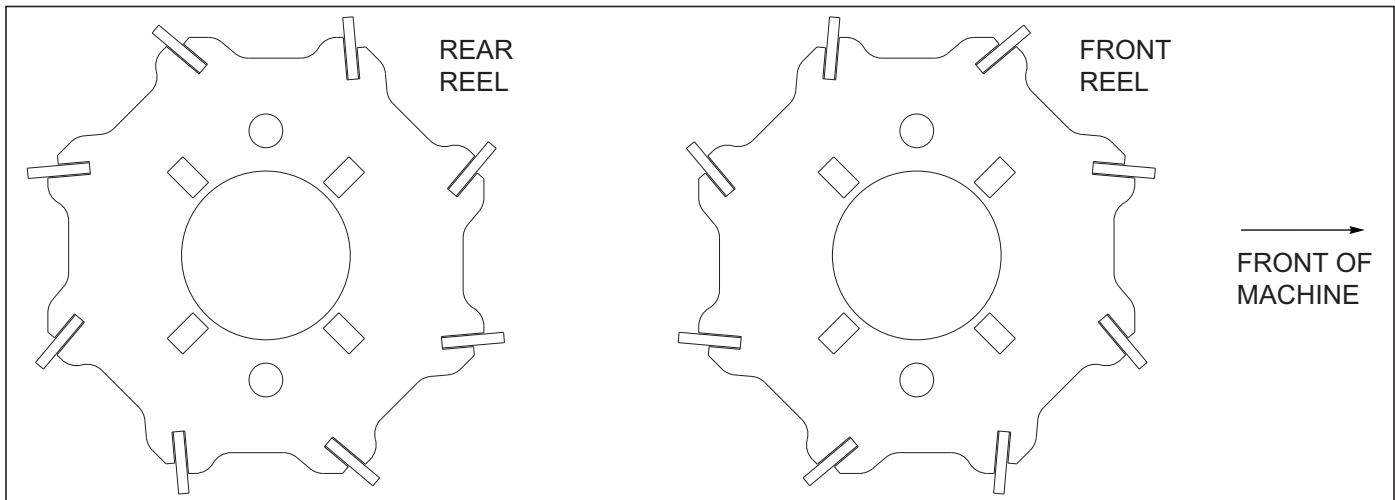

Figure 3-31: 2RS DBL Flat Reel Installation
2. Refer to Note: spike bar alignment See Figures 3-31 for proper alignment of spike bar assemblies. Be sure they are aligned properly on both right and left side of each section.
6. Attach flat bar reels with front and rear reel angled blades as shown See Figure 3-31.